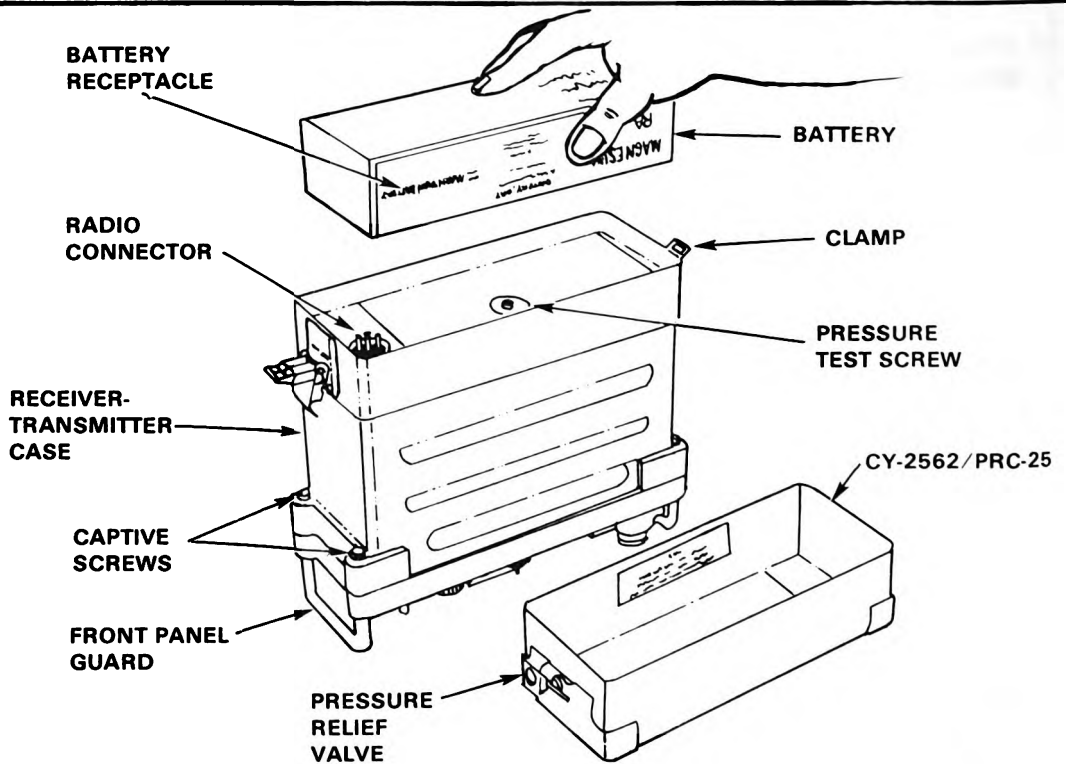

Figure 2. Installing battery in receiver-transmitter.
2. **Installation of battery** (figure 2) (TM 11-5820-667-12, chap 2, page 2-4, para 2-4).
- (1) Depress valve and blow from the outside; air should pass through the vent.
- (2) Release the valve and blow; air should not flow.
- d. Place battery in battery box as shown in figure 2.